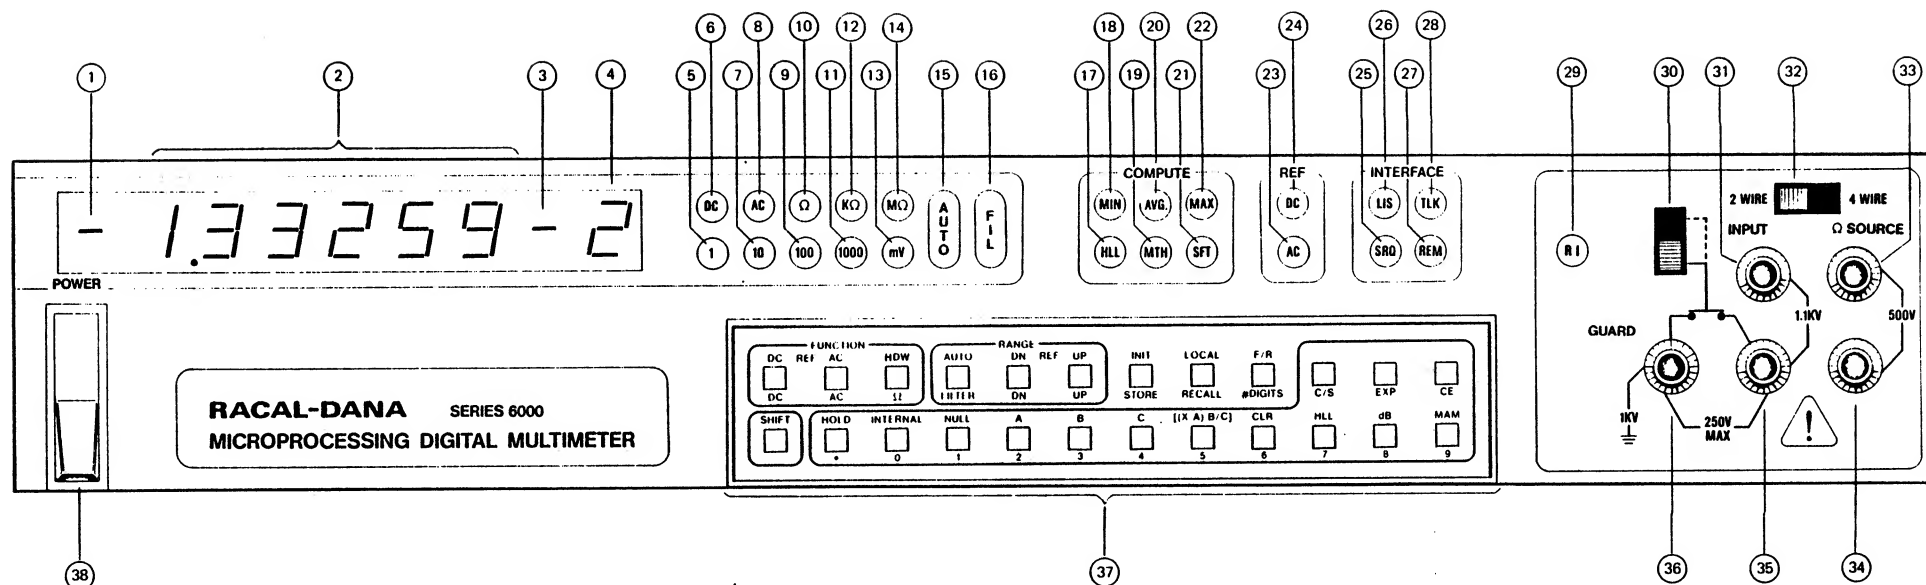
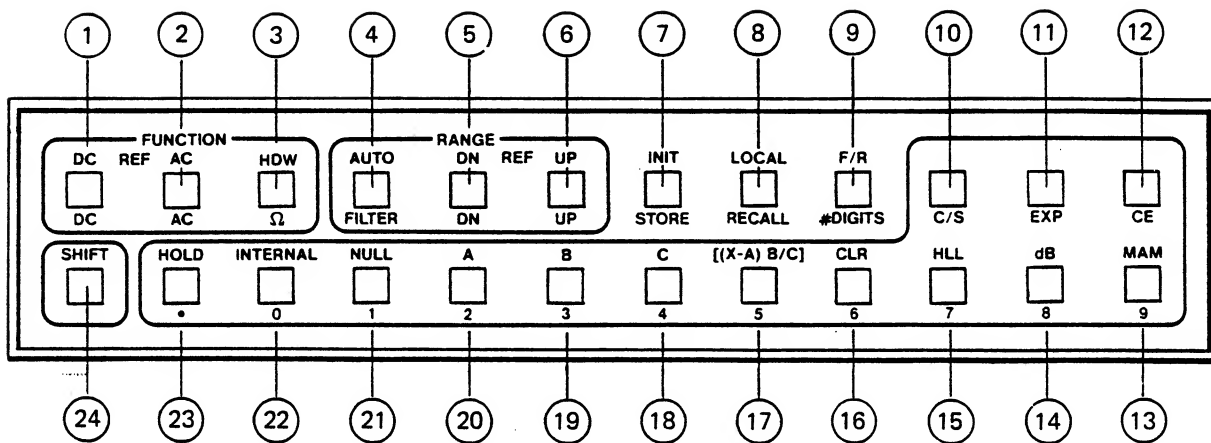

Figure 3.1 - Front Panel Controls, Indicators and Connectors
Figure 3.1A - Keyboard Control Layout
3.2.1 The location, nomenclature and function of all controls, indicators and connectors are illustrated and described in Figures 3.1, 3.1A, 3.2 and the accompanying Tables 3.1 through 3.3. The front panel information is presented in Figure 3.1, Table 3.1; the keyboard information in Figure 3.1A, Table 3.2 and, the rear panel is shown and described in Figure 3.2 and Table 3.3.